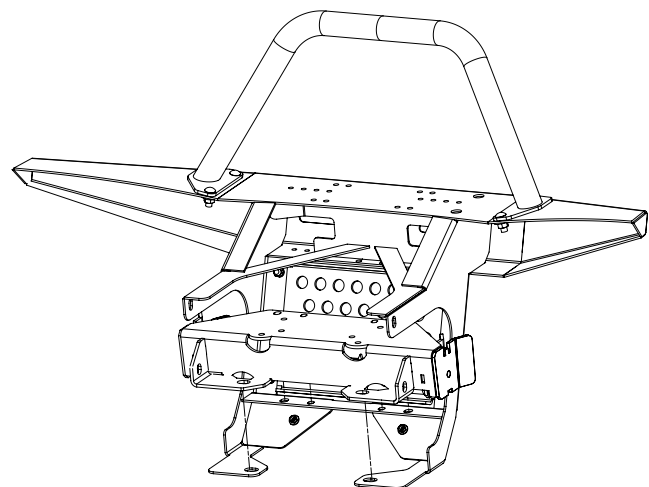

Figure 12
1. Bumper is compatible with WARN front plow mount. See Figure 12 and 13 for proper alignment and mounting.